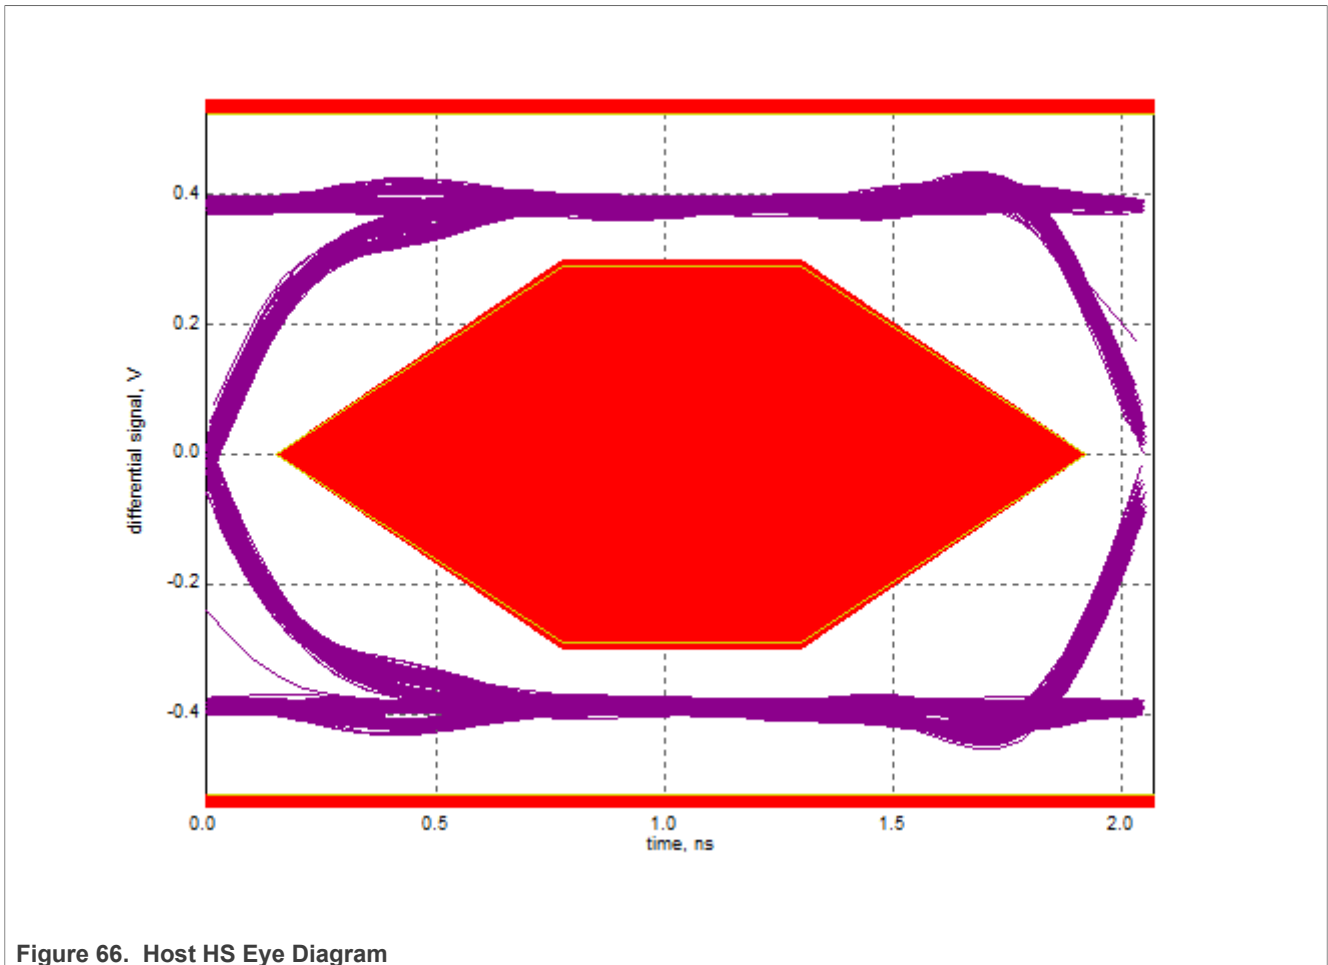

Figure 66. Host HS Eye Diagram
5. You should see the transmitted test packet on oscilloscope as shown in Figure 65 and Figure 66 below.
2. Connect the equipment and test fixture as shown in Figure 66 above.